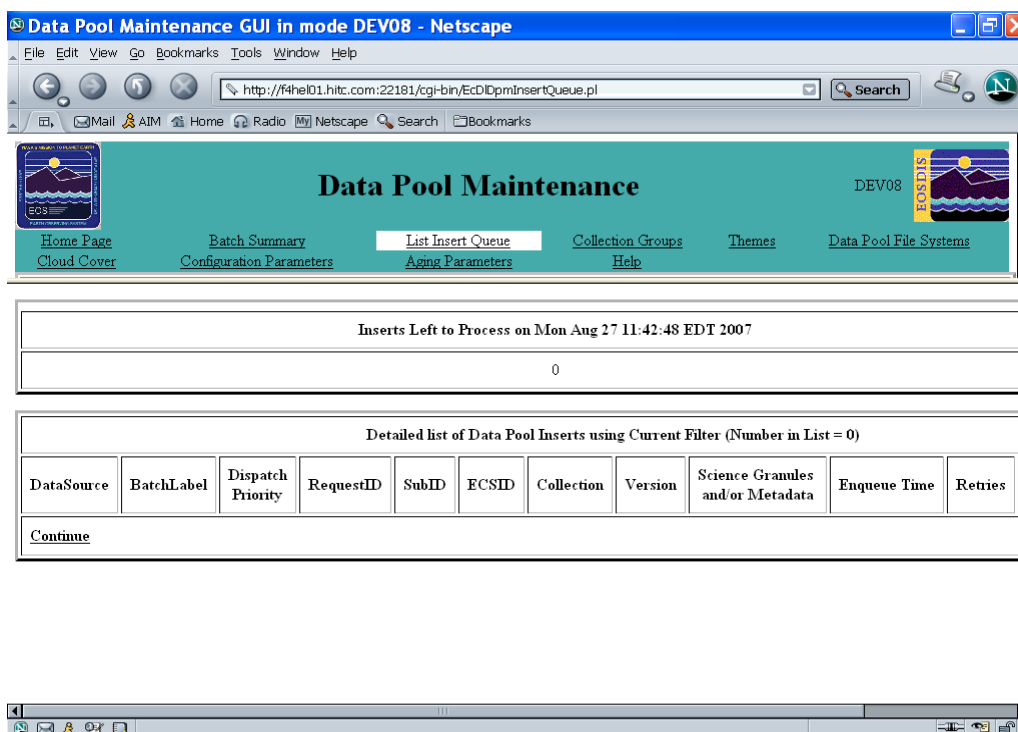

Figure 14.10-11. List Insert Queue Page
Figure 14.10-11 illustrates the **List Insert Queue** page, which is accessible from the **List Insert Queue** link on the **DPM GUI Home Page** (Figure 14.10-2). The page provides a list with detailed information on inserts left to process. The information is accessible to both full-capability and limited-capability operators.
- The **List Insert Queue** page is displayed (see Figure 14.10-11).